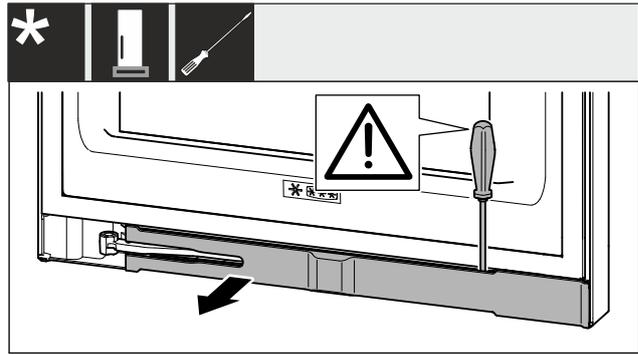

Fig. 3
- ▶ Use a slotted screwdriver to unlatch the trim and swing it to the side Fig. 3 ().